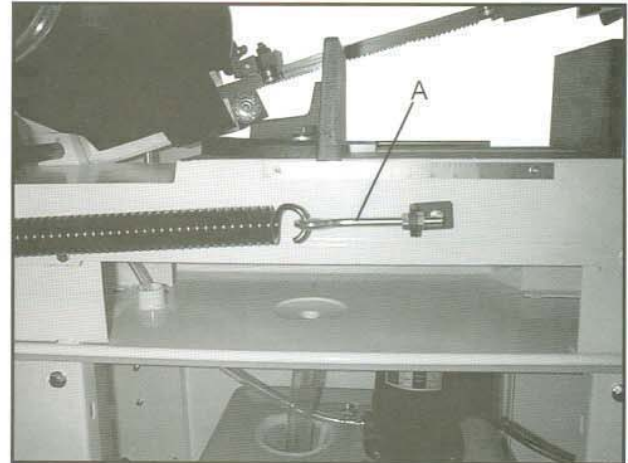

Fig. 18
5. Adjust tension to approximately 13 -15 lbs. by turning bolt (A, Fig. 18).